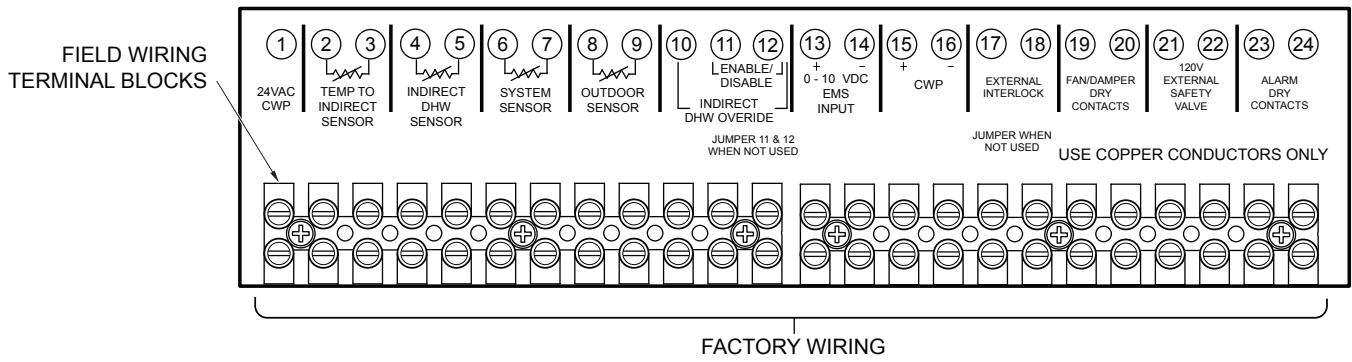

Figure 47. Low-Voltage Field Wiring
2. To enable this control function, set DIP switch 5 to the UP position on the PIM. DIP switch 5 toggles between an EMS (UP) signal or a demand signal from the VERSA (DOWN). DIP switch 2 on the PIM toggles between a Direct Drive (UP) input and a Target Temperature (DOWN) setpoint.
4. Connect an Energy Management system or other auxiliary control signal to the terminals marked 0-10V (+/-) on the field wiring terminals. See **Figure 47**.
Connect the Enable/Disable (Terminals 11 and 12) wiring to the field wiring terminals as shown in **Figure 47** and in place of the factory installed jumper. Alternately, any dry contact closure (including a remote thermostat) across these terminals will enable the boiler to run.
1. When using a System Sensor (S3), connect the sensor wires to the terminals marked (6 and 7) SYSTEM SENSOR. See **Figure 47**.
1. If using an Outdoor Sensor, connect the sensor wires to the terminals (8 and 9) marked OUTDOOR SENSOR. See **Figure 47**.
Connect the indirect tank sensor to terminals (4 and 5) marked INDIRECT DHW SENSOR. See **Figure 47**. Caution should be used to ensure neither of these terminals becomes connected to ground. When using an indirect DHW Sensor to control tank temperature, contact closure is required across the indirect override connections for proper operation.
2. Connect the system supply sensor to terminals 6 and 7 on the field wiring strip located on the Master boiler. See **Figure 47**.
3. Connect the Outdoor sensor (if used) to terminals 8 and 9 on the field wiring strip located on the Master boiler. See **Figure 47**.
4. Connect the Enable/Disable wiring to terminals 11 and 12 on the field wiring strip located on the Master boiler. This connection must be provided through dry contacts closure. See **Figure 47**. Applying 24VAC to these terminals will result in blowing the fuse on PIM.
The Alarm Contacts are 3A rated dry contacts on a normally-open relay that close during fault or lockout conditions, and the maximum voltage across the contacts is 30 VAC or 30 VDC. See the Field Wiring as shown in **Figure 47**.
3. Connect CO sensor to terminals 17 and 18 of “Field Terminal Wiring Block” per **Figure 47**.